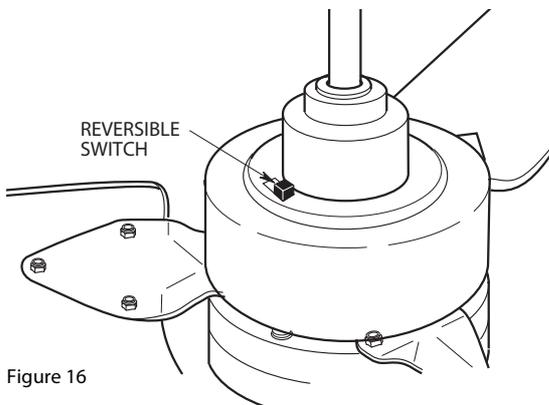

Figure 16
- 6. All fans are shipped from the factory with the reversing switch positioned to circulate air downward. If airflow is desired in opposite direction, turn your fan OFF and wait for the blades to stop turning, then slide the reversing switch to the opposite position, and turn fan on again (Figure 16).